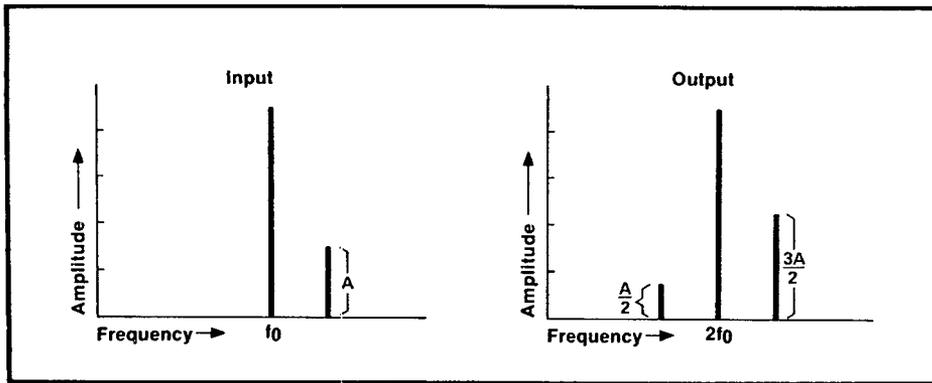

Figure 6. The effect of frequency doubling on spurious signals.
**Spurious Signals.** Single-sided spurious signals in the output of the 8662A may be thought of as a combination of low mod index AM and FM with rates equal to the spacings between the spurious signals and the carrier. While frequency doubling has little effect on the low depth AM, it doubles the modulation index of the FM by doubling the deviation. Combining the effects of doubling on these two modulations produces a net effect of increasing the level of a spurious signal by 3.5 dB. In addition, a new spurious signal appears on the opposite side of the carrier at the same offset as the original spurious signal but at a relative level 6 dB lower than the original spurious signal. This effect, shown in Figure 6, results from the broadband response of the doubler and occurs regardless of the spacing between the original spurious signal and the carrier.
In practice, most signal generator spurious signals are double-sided since they tend to be caused mainly by FM. Applying the effect illustrated in Figure 6, it can be shown that frequency doubling may increase the double-sided spurious signal level as much as 6 dB, depending upon the relative amounts of AM and FM present.